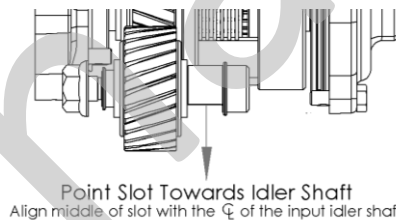

Figure 8 – Intermediate Shaft Positioning
16. Tap the intermediate shaft (37) into the PTO housing (23) and secure using the hex nut (25) and torque to 18-25 Ft. Lb. The intermediate shaft (37) has a groove cut-out and needs to be positioned towards the aperture opening to allow clearance from the input gear. See figure 8.